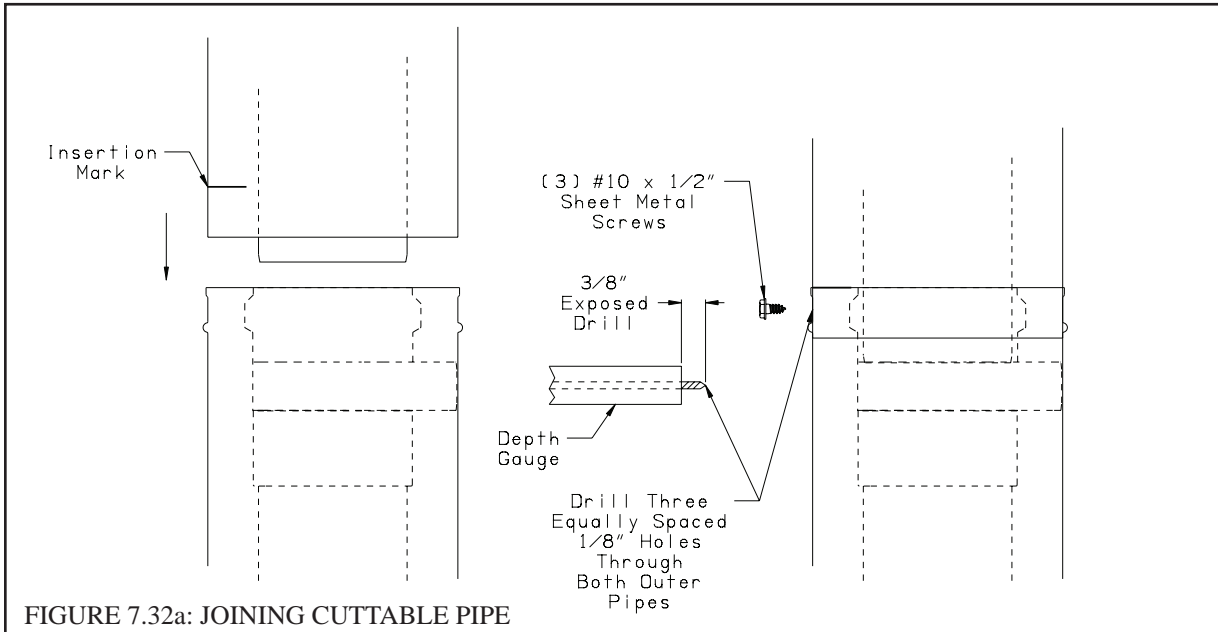

FIGURE 7.32a: JOINING CUTTABLE PIPE
- c) The male end of cuttable fittings must be held to the collar with three #10 x 1/2" sheet metal screws. Drill a 1/8" hole through both outer pipes to start this screw. Use a drill stop or other means to ensure that the drill bit does not penetrate more than 3/8" into the outer pipe. Do not use a sheet metal screw longer than 1/2" (Figure 7.32a).